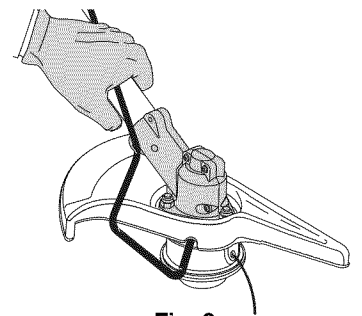

Fig. 9
2. Hold the locking rod in place by grasping it next to the boom of the unit (Fig. 9).
- Hold the locking rod in place by grasping it next to the boom of the unit (Fig. 9).